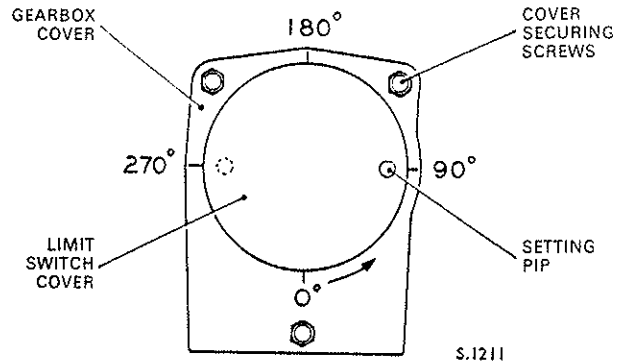

Fig. N.39. Setting wiper limit switch cover
by and in electrical contact with the earthed gear plate. This contact bears against a brass plate riveted to, but insulated from the domed cover. The brass plate consists of a disc, from which a sector has been cut and is connected to the motor windings by way of a cable and terminal tag positioned on top of the domed cover. On switching off at the wiper control switch, the motor continues to run until the moving contact passes on to the insulated sector portion and so interrupts the earth return circuit and stops the motor. The domed cover is angularly adjustable for obtaining the correct park position of the wiper blades (see Fig. N.39); the position of the cover determining the instant in the wiping cycle that the moving contact will reach the insulated portion of its travel.
- Limit Switch Adjustments.** Slacken the three gearbox cover securing screws (see Fig. N.39).